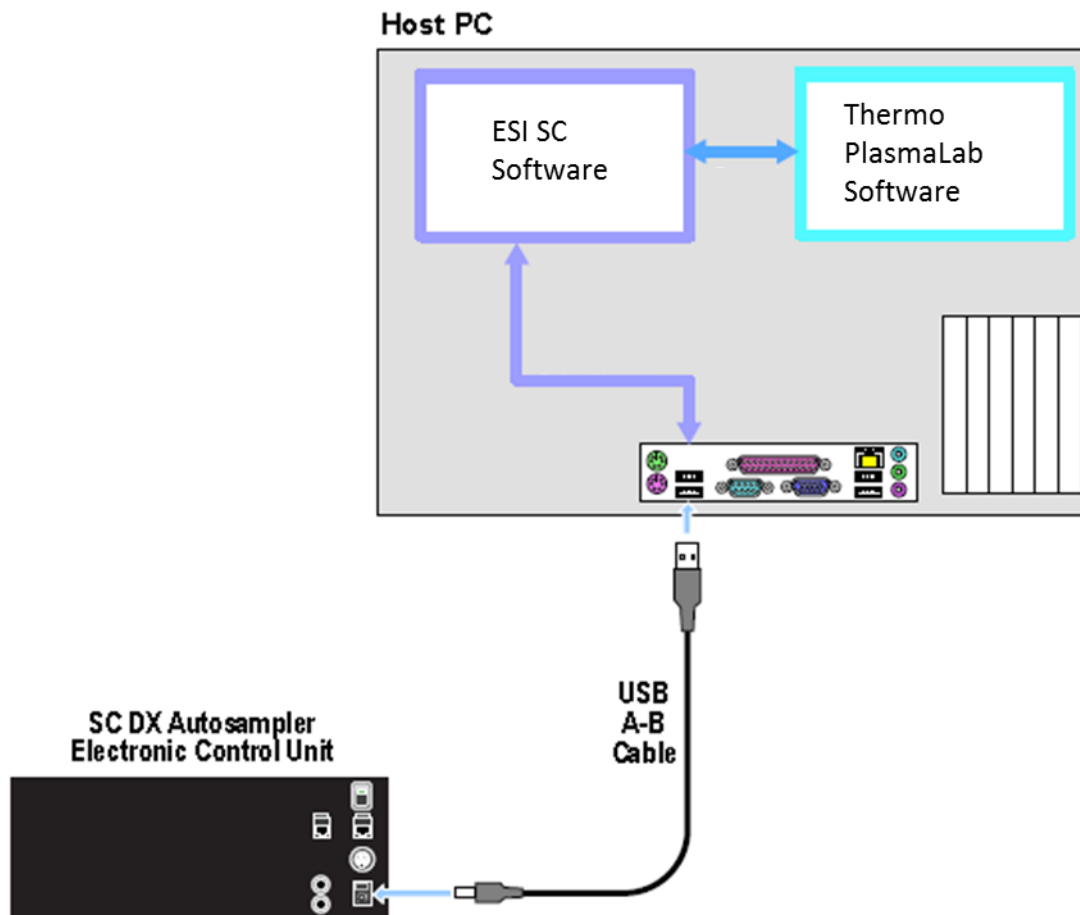

Figure 35: Connection options for PlasmaLab and ESI SC with SC-Autosampler.
- 2) Connect the USB cable between the SCDX autosampler and an available USB port on the instrument computer. See Figure 35.
- 2) Connect the USB cable between the SCDX autosampler and a USB port on the instrument computer. See Figure 35.